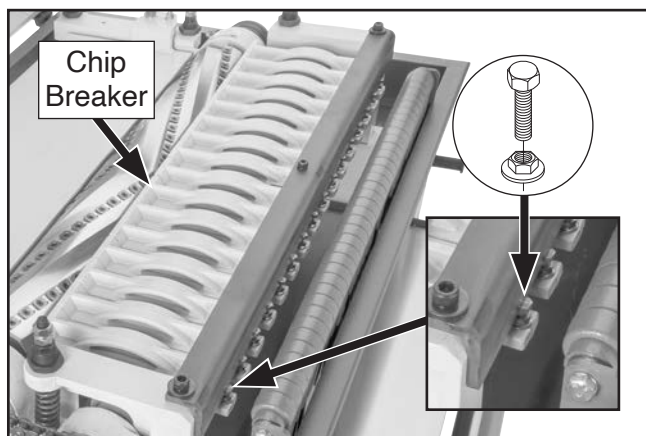

Figure 99. Location of chip breaker frame and adjustment components (G0988 shown)
4. On any chip breakers marked in **Step 3**, loosen chip breaker jam nut (see **Figure 99**).
5. On each chip breaker marked in **Step 3**, rotate adjustment bolt (see **Figure 99**) as needed to adjust chip breaker height so Rotacator/dial indicator reads between 0.10–0.20mm.